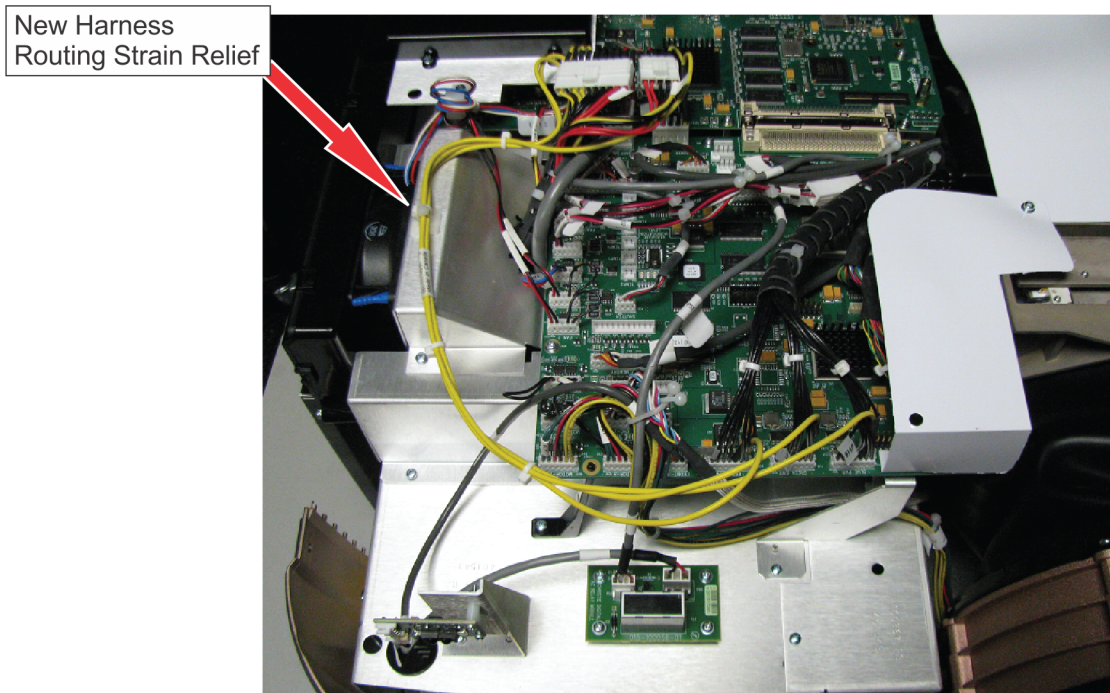

Figure 9 New Harness Layout
15. Connect existing harness J121 and J36 into P121 and P36 of the new harness. See Figure 9 New Harness Layout.